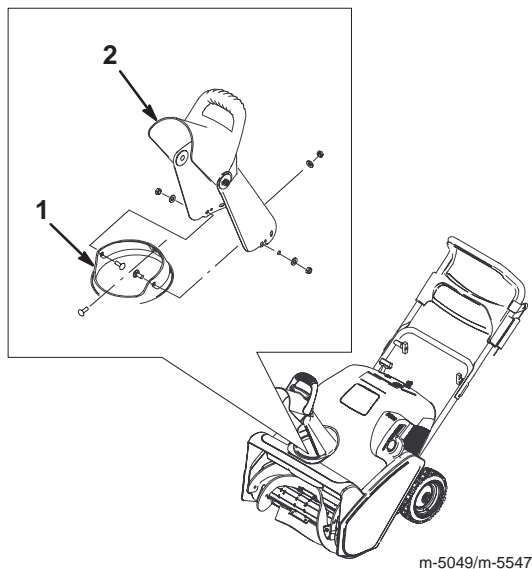

Figure 5
1. Place the discharge chute over the chute ring, and align the hole in the back of the discharge chute with the center hole in the chute ring (Fig. 5).
2. Insert a screw in the center hole of the chute ring from the inside until the screw just passes through the hole in the discharge chute (Fig. 5).